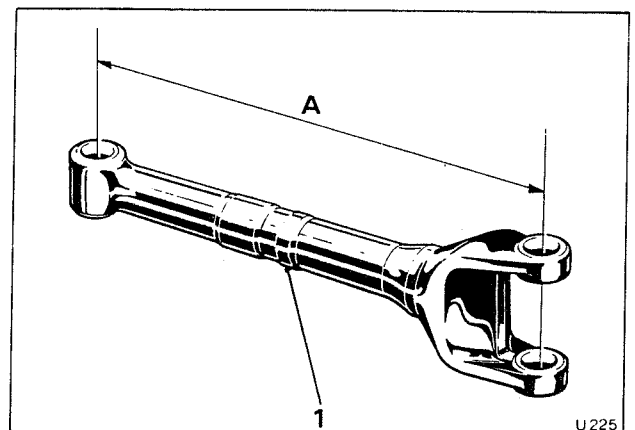

Fig. J12m Half-shaft identification
To enable the longer type of half-shaft to be identified a raised area 6,35 mm. (0.250 in.) wide has been added as shown in Figure J12m.
When a new half-shaft is being used always ensure it is of the correct length (see Fig. J12m).
1. If a service exchange shaft is being fitted, it will be supplied suitably blanked and protected. Ensure the half-shaft is of the correct length (see Fig. J12m).